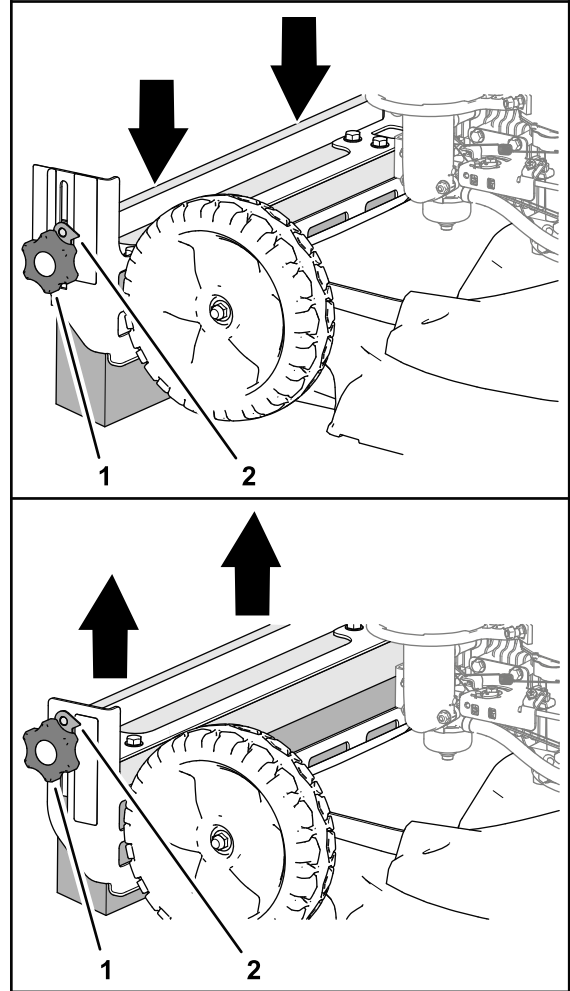

Figure 19
1. Loosen the knobs at the sides of the brush mount (Figure 19).
2. Use the handle of the brush-adjustment bracket to raise or lower the groomer brush (Figure 19).
3. Tighten the knobs (Figure 19).